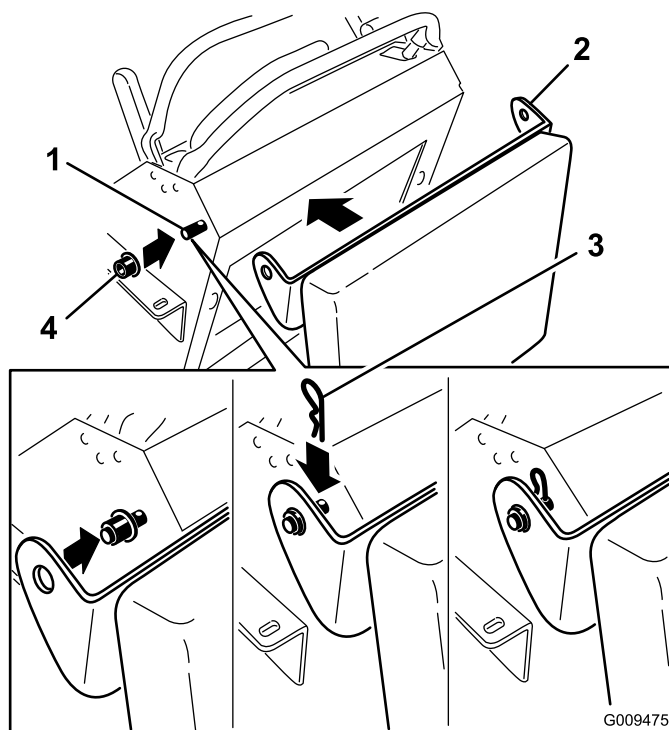

Figure 33
6. Install the plastic bushings onto the pins (Figure 33).
8. Slide the plastic bushings into the cushion bracket and secure them with a hairpin cotter pin (Figure 33).